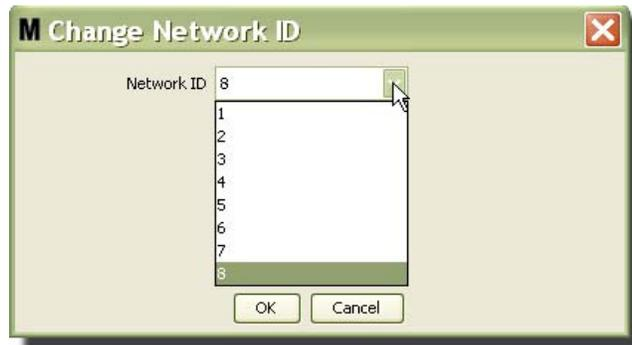

FIG. 100
3. From the drop-down menu of available Network ID numbers, select the Network ID number assigned to your location (FIG. 100). Click OK to close the screen and save the changes.